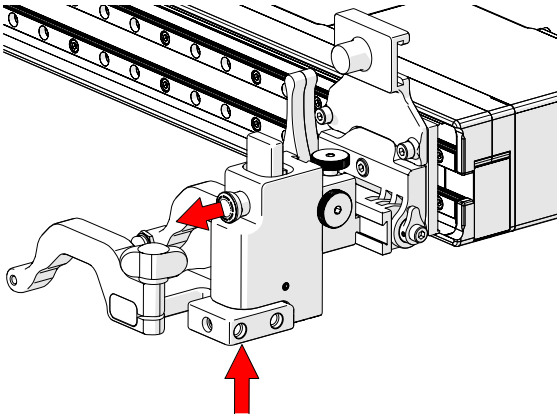
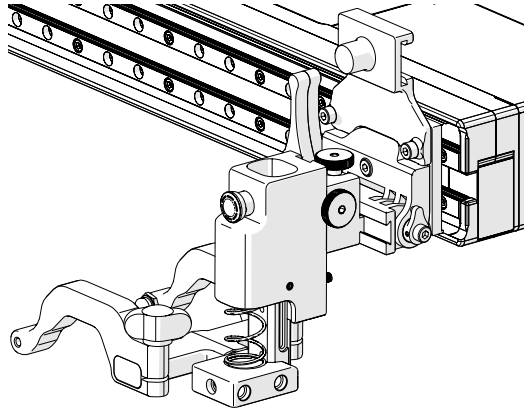

Fig. 115 - Press up and pull latch
Fig. 116 - Lowered toward scan surface
1. Gently lift the heavy duty vertical probe holder and simultaneously pull the latch (*Fig. 115*). This action will unlock the probe holder. Slowly lower the probe holder towards the scan surface (*Fig. 116*).